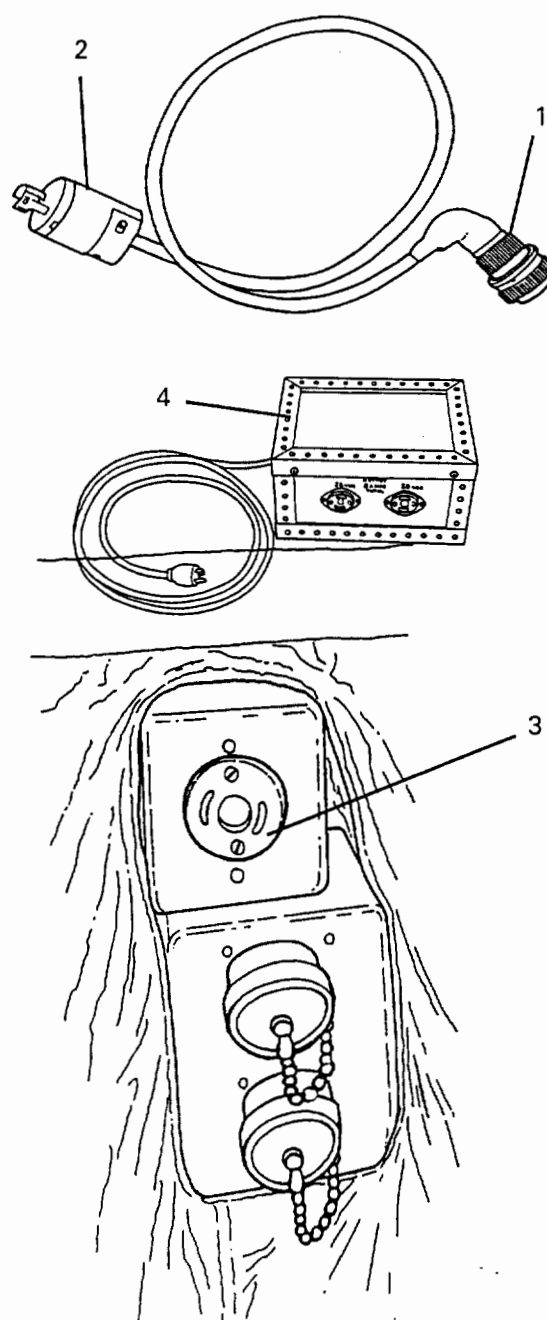

Figure 3-3 — 24 Volt Aircraft Power Cable
306. Connect the angled socket (1) of the cable to the blood refrigerator input socket and the two pin plug (2) into the socket (3) in the aircraft. In the event of the transport of the blood refrigerator in a Boeing 727 a 115 volt AC to 28 VDC converter (4) is supplied in the aircraft (Fig 3-3).